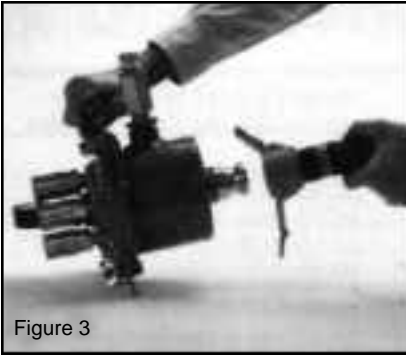

Figure 3
- c) Attach the pod(s) to the end of the V60 hose. They should be connected so that the handle and pressure relief valve are on top of the pod (See next page Figure 3).